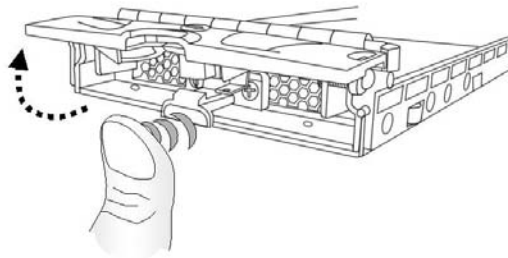

Figure 2-6: Drive Tray Release Button
Step 2. *Open the front flap on the drive tray.* (See *Figure 2-6*) Push the release button on the drive tray. The front flap will spring open.